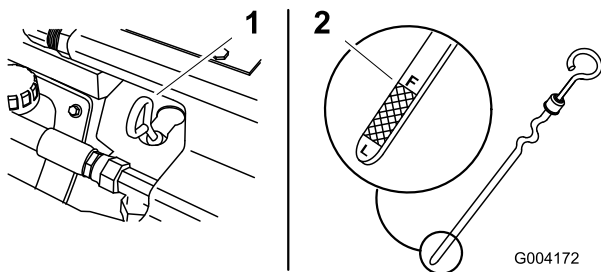

Figure 15
4. Clean around the oil dipstick (Figure 15).
5. Pull out the dipstick and wipe the metal end clean (Figure 15).
6. Slide the dipstick fully into the dipstick tube (Figure 15).